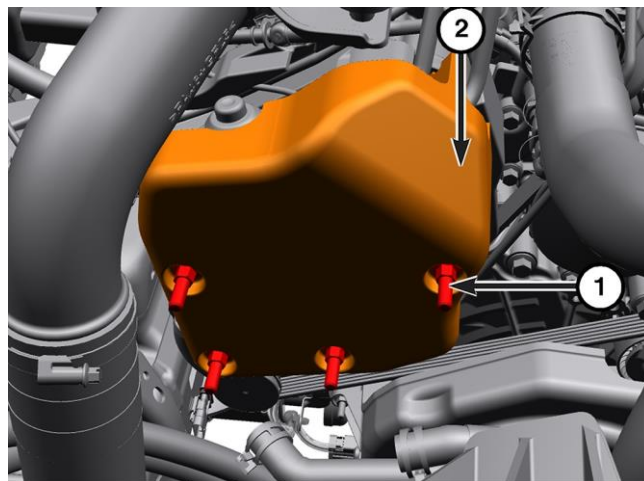

Figure 60 – HPFP Sound Proofing
3. Remove the bolts (1) securing the sound proofing (2) to the fuel injection pump (Figure 60).
43. Install the fuel injection pump cover (2) and tighten the screws (1) securely (Figure 60).